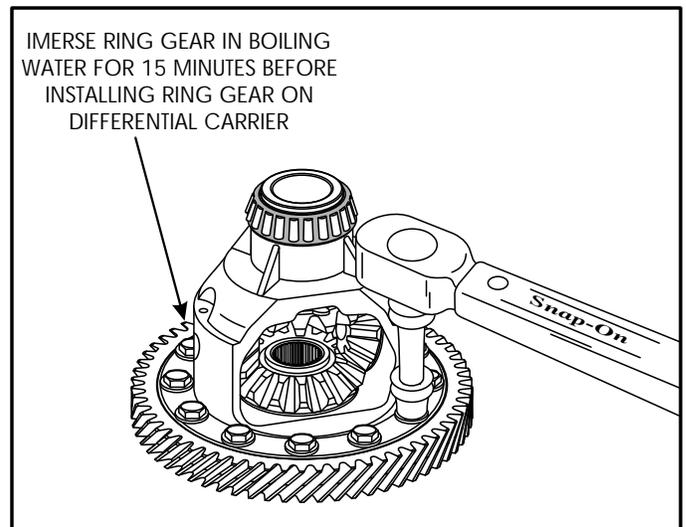

Figure 148
3. If it was necessary to replace the ring gear, install it on the carrier and torque all ring gear bolts to 70 ft.lbs. as shown in Figure 148. **Note: Always install "New" ring gear bolts when the ring gear is changed.**